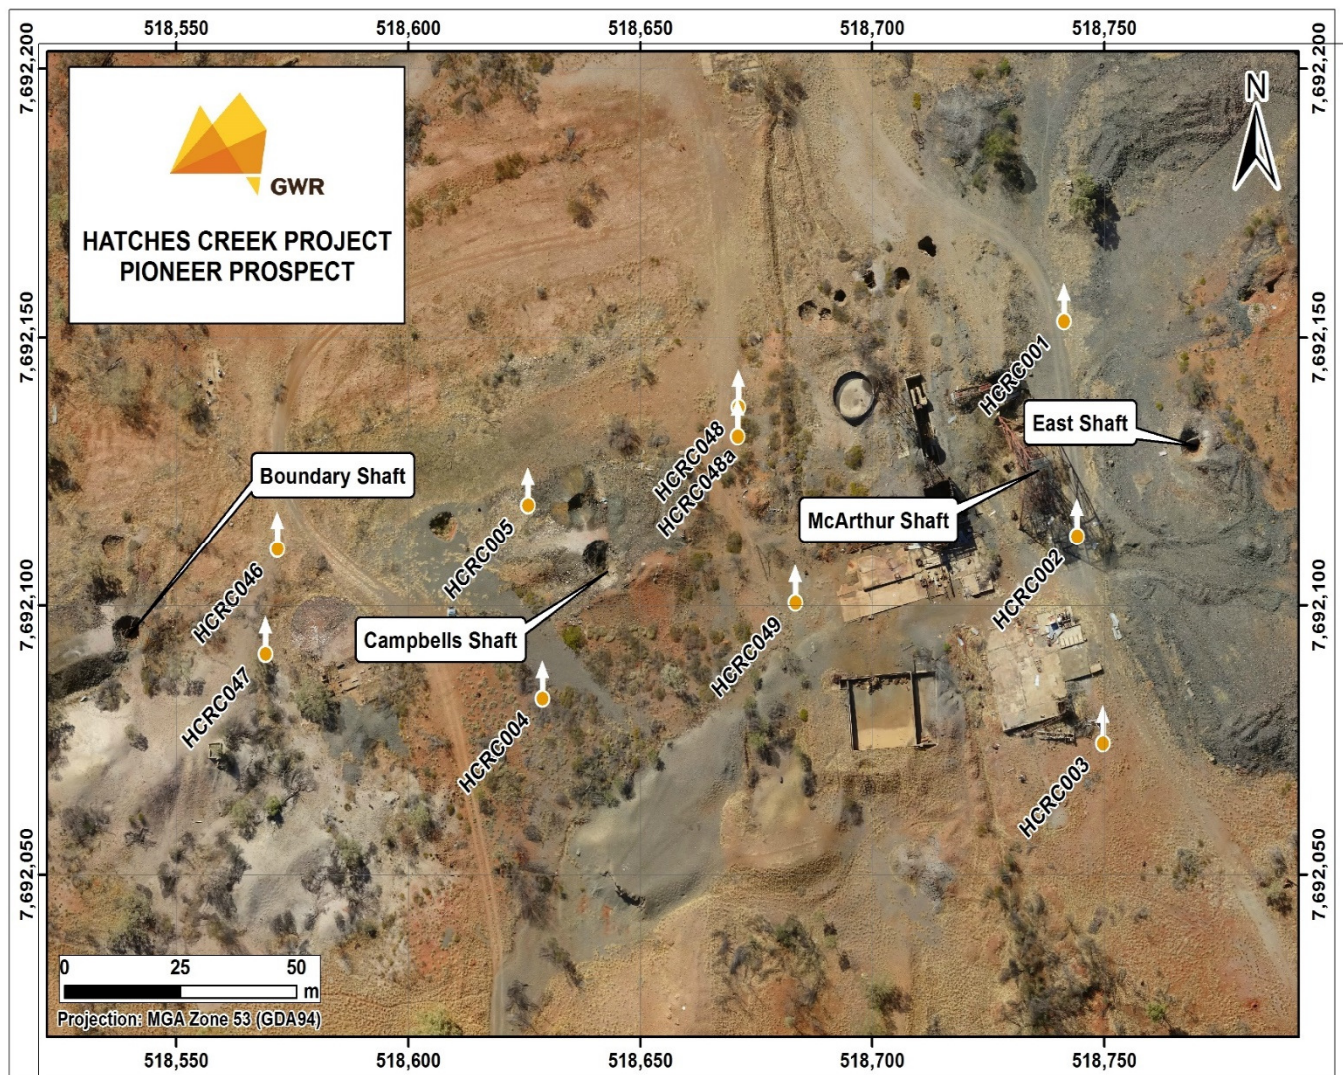

Figure 5 Pioneer drill hole collars
Pioneer (Figure 5) is the largest historical mine at Hatches Creek. 85,600 tonnes of mine dumps, stockpiles and tailings that average 0.70% WO₃. 0.65 g/t Au, 1 g/t Ag, 1.3% Cu and 1032 ppm Bi are present which clearly demonstrate the polymetallic nature of the mineralisation. Multiple (5) en-echelon lodes are present over a length of approximately 400 m that strike at 070° and dip south at 60°. The mineralisation is hosted by gabbro and sedimentary rocks with both scheelite and wolframite present. The dumps and RC drill holes show copper bismuth, gold, and also anomalous Hg and Te, suggesting a robust and complex mineralising event. Extensive historical mine workings are present with the main shaft having been developed to a depth of 208 feet (63 m). High quality mine plans are available from Bulletin 6. A total of 9 RC holes for 750 m have been completed on 4 lines. Numerous polymetallic intercepts have been achieved as listed in the ASX releases, however the mineralisation appears to be structurally complex. A 200 m strike length (400 m total) was adopted for the Exploration Target estimate to reflect this complexity. The 10 m width adopted is the average true width of the mineralised lodes intersected on each of the 4 drill sections.